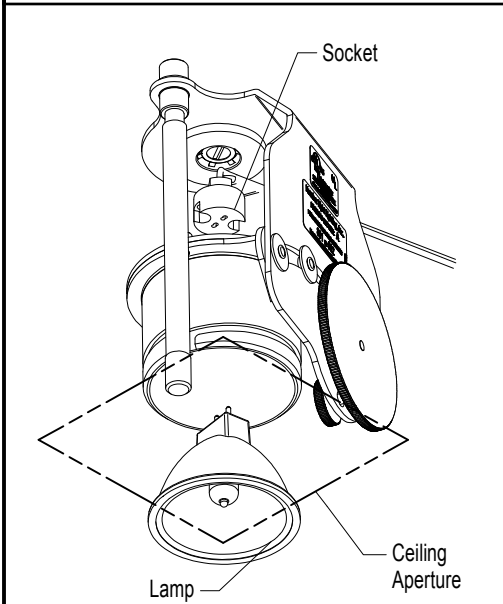

FIG. 2.4 Disconnect Socket
Step 4 Disconnect Lamp socket and remove Lamp - Fig 2.4.